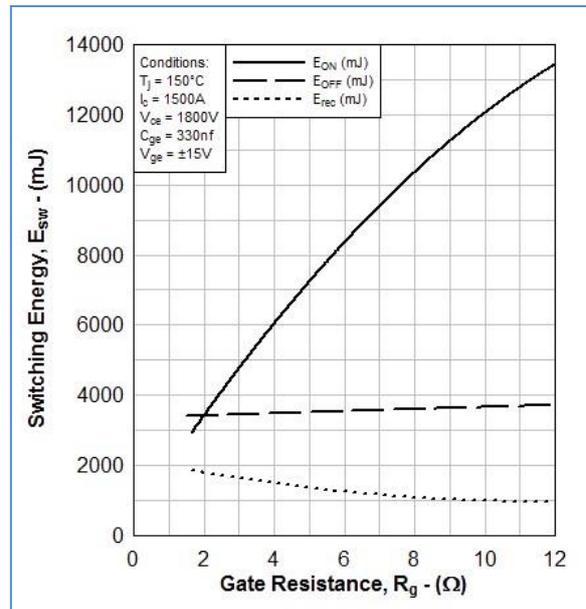

Figure 6: Typical switching energy VS gate resistance
- ii)  $E_{ON}$ ,  $E_{OFF}$  and  $E_{rec}$  Vs gate resistance Fig. 6.